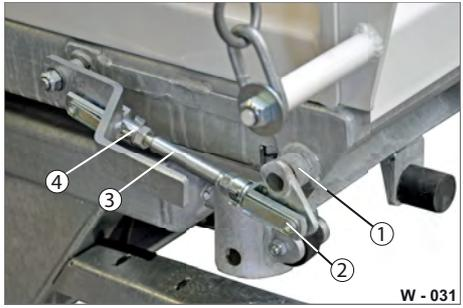
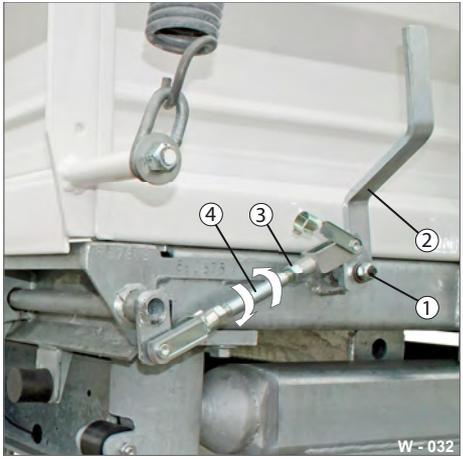

Fig. 31 Central locking system at rear
Fig. 32 Readjusting central locking system
- ▶ Unscrew both lock nuts (Fig. 32/3) on the transfer rod (Fig. 31/3).
- ▶ Check the alignment by actuating the lever (Fig. 32/2).
- ▶ Screw the lock nuts (Fig. 32/3) tightly.